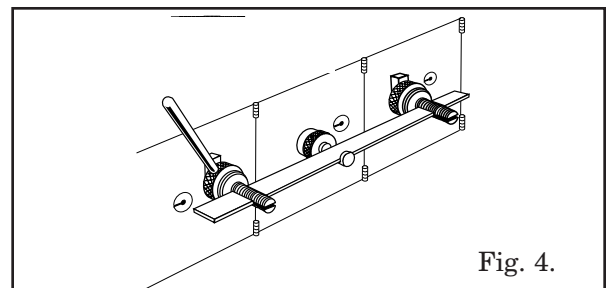

Fig. 4.
4. The long, flat blade is then fitted onto the holding slot, along with the remainder of the puller unit, as shown in Fig. 4.